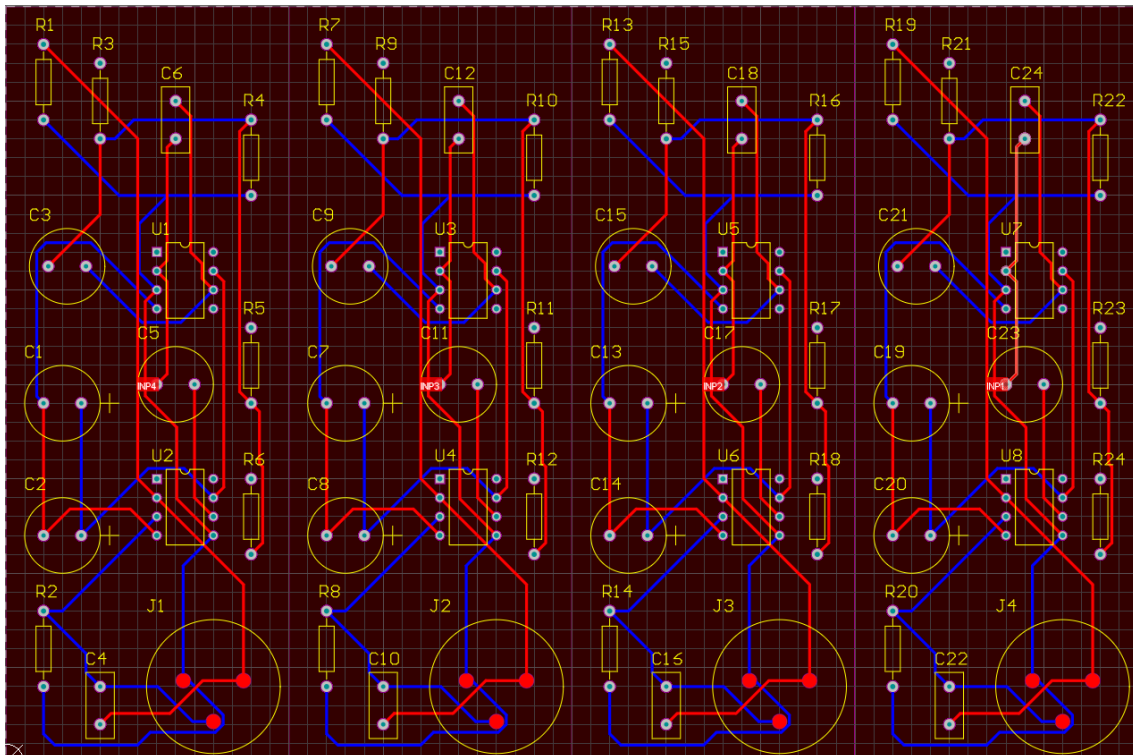

Figure 9. Designators reordered based on location on the PCB
27. Select **OK** to accept the change. The revised board should look like Figure 9 with R1 in the top left corner.